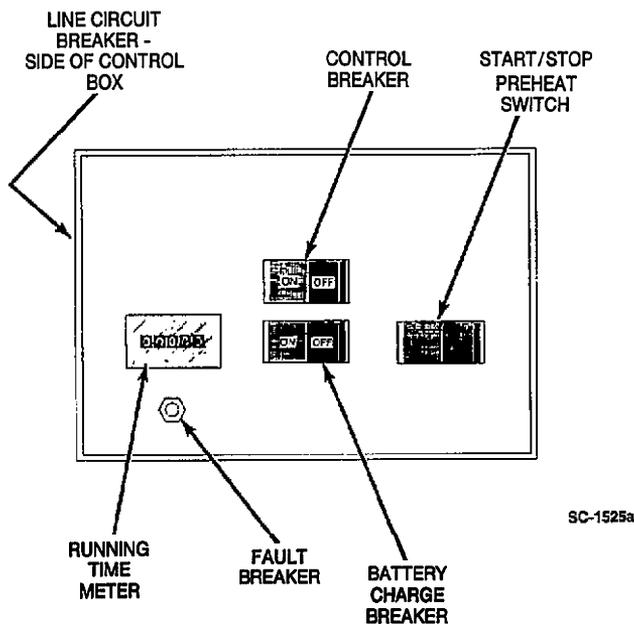

FIGURE 3. 7.5, 6.5 AND 6.0 DKD CONTROL BOX FRONT PANEL
The following describes the function and operation of the generator set controls. Control switches and circuit breakers are located on the face of the control panel as shown in Figures 3 and 4.
**Line Circuit Breaker:** The AC output line circuit breaker(s) is mounted on the side of the control box on the 7.5 DKD, 6.5 DKD and 6.0 DKD. See Figure 3. The line circuit breaker is customer supplied on the 8.0 DKD and location may vary.